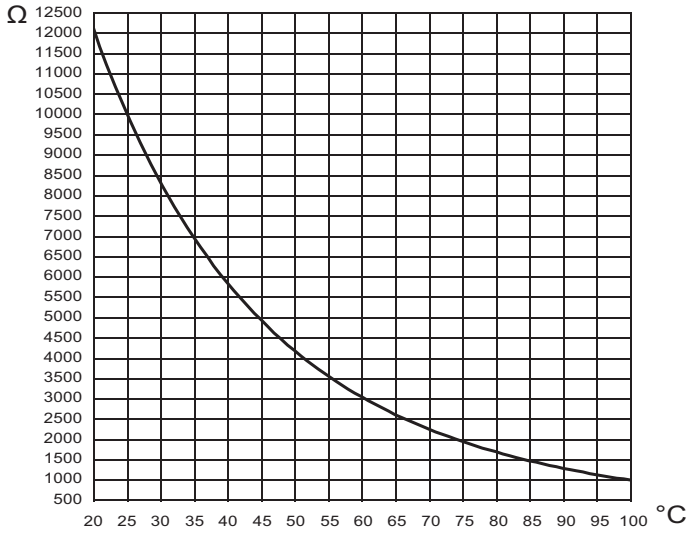

Figure 13.4
- 2 Measure the Flue temperature probe NTC and Safety thermal fuse electrical resistance at the ambient temperature and check it according to the graph in (Figure 13.4).